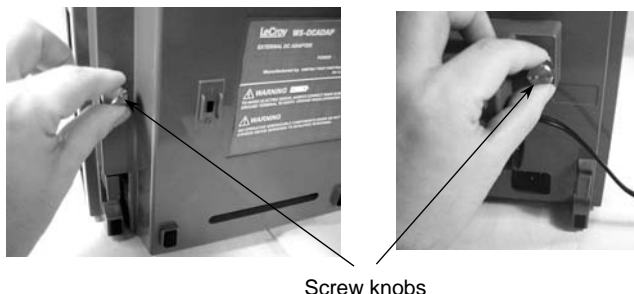

Figure 6 Fastening the DC Adapter
3. Tighten the right and left screw knobs by hand while pressing them in to fasten the DC adapter to the oscilloscope. (See Figure 6 below.)